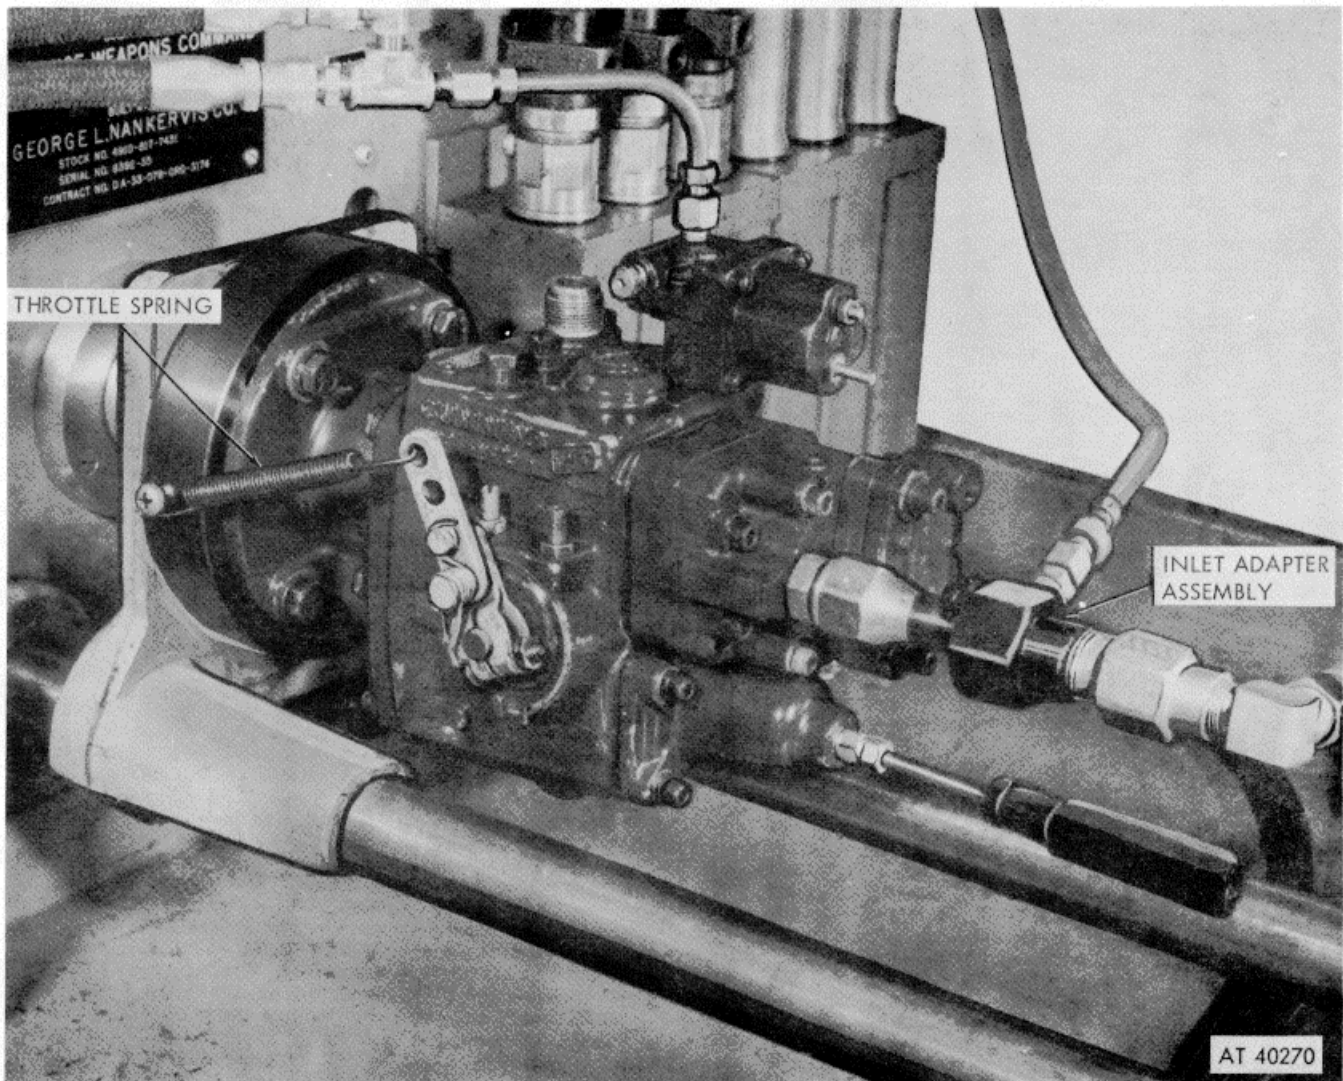

Figure 3-82. Pump to stand drive shaft engagement.
(5) Loosen bar clamp and slide pump and bracket assembly to engage stand drive shaft. Allow 1.16-inch end clearance between pump drive and stand drive. Tighten bar clamp screw securely (fig. 3-82).
(6) Install pump inlet adapter assembly (5, fig. 3-79) in pump inlet port as shown in figure 3-82.
(7) Connect 1/2-inch ID flexible hose (11, fig. 3-79) from stand suction control valve (fig. 3-82) to flare connector of inlet adapter assembly on pump.
(4) Install throttle spring (fig. 3-82) to hold throttle in wide open position.